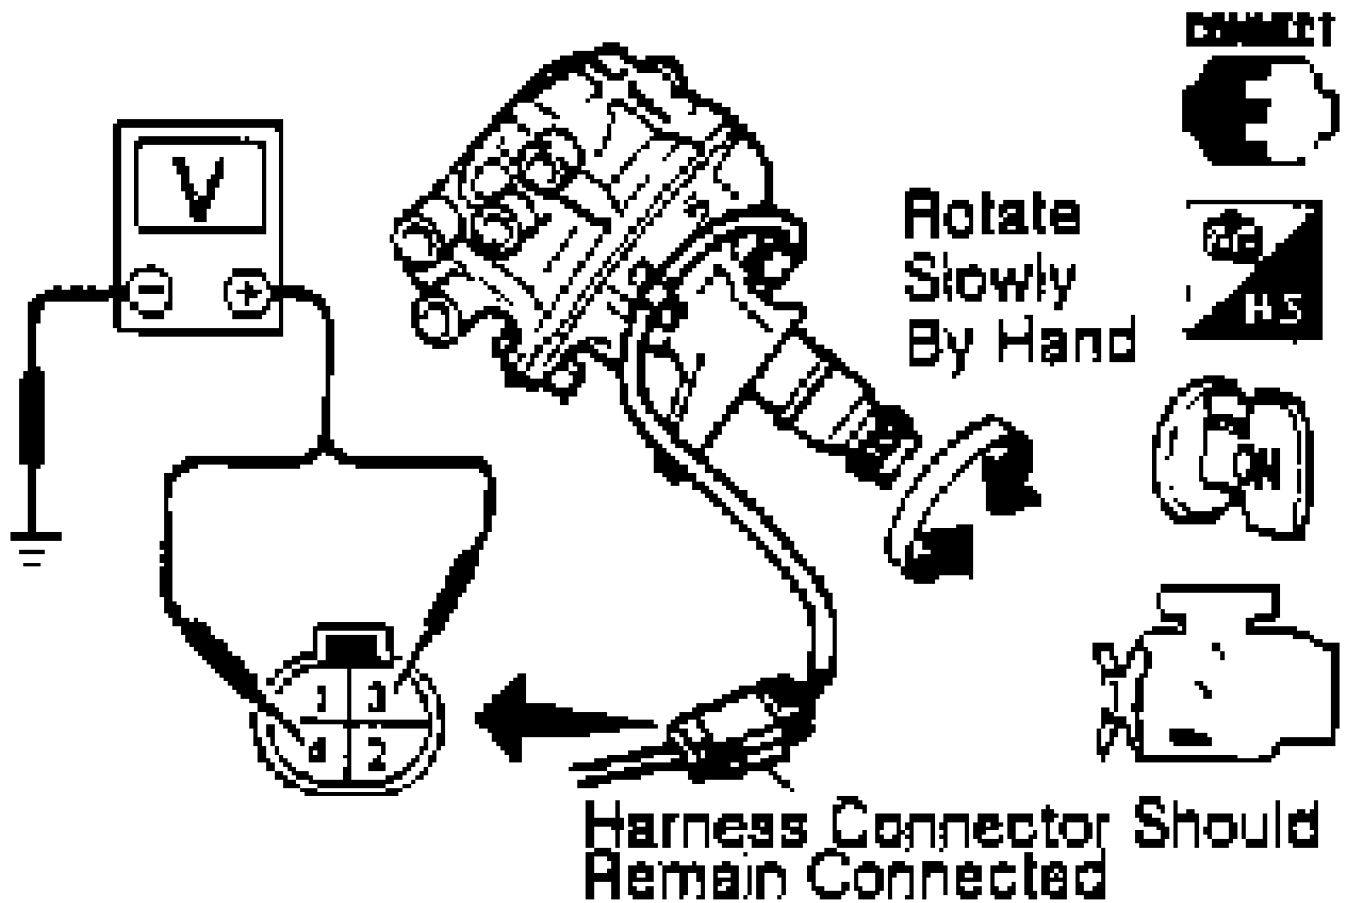

Fig. 9: Checking Crank Angle Sensor Ckt. (M30 Shown; G20 Is Similar)
- 2) Connect negative voltmeter lead to ground. Rotate crank angle sensor shaft slowly by hand. Connect positive voltmeter lead to crank angle sensor connector terminal No. 1 (180-degree signal) for G20 or No. 3 (120-degree signal) for M30. See Fig. 9. Voltage should fluctuate between 0 and 5 volts. Move voltmeter positive lead to terminal No. 2 for G20 or No. 4 for M30 (one-degree signal). Voltage should again fluctuate between 0 and 5 volts.